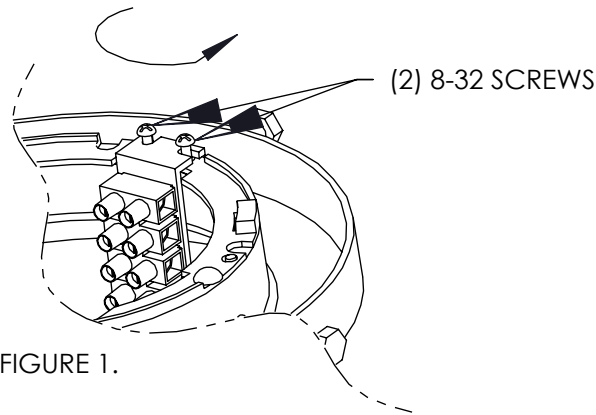

FIGURE 1.
STEP 2: Loosen the (2) #8-32 screws and rotate the terminal block bracket in order to remove it from the housing (see FIGURE 1, below).
STEP 5: Replace the terminal block bracket and tighten the (2) #8-32 screws.